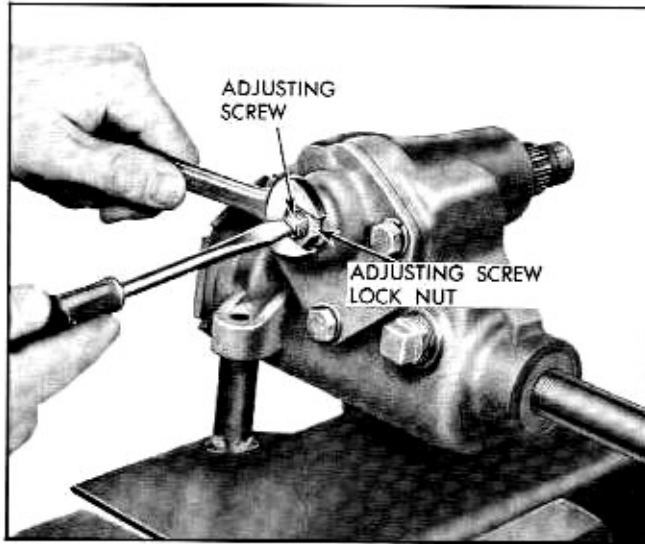

Fig. 9-17 Adjusting Pitman and Ball Nut Backlash
4. Loosen pitman shaft adjusting screw lock nut and back off adjusting screw a few turns (Fig. 9-17).